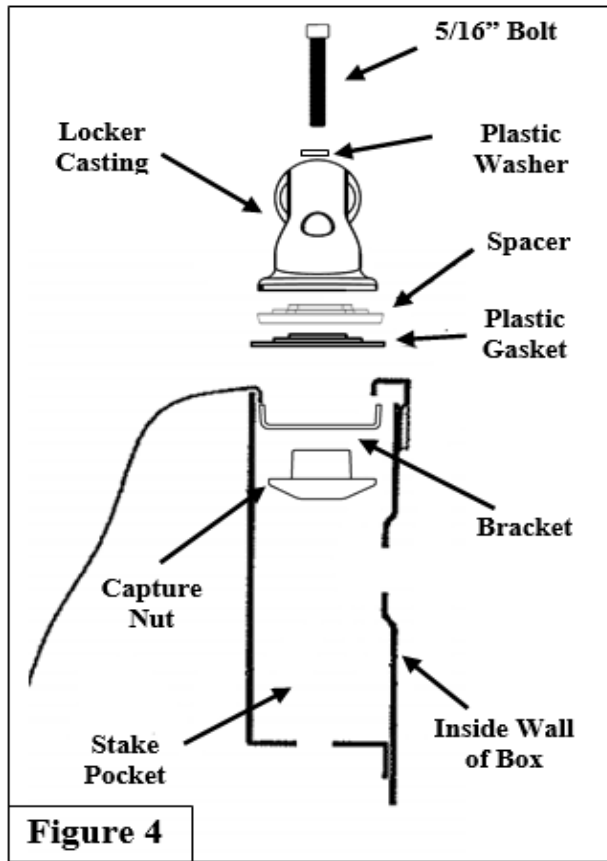
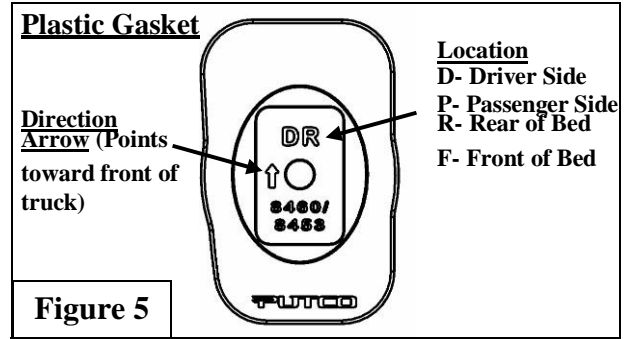

Figure 4
Figure 5
9. Assemble the mounting hardware on all the locker end castings in order as shown (**Figure 4**). **Note: Each plastic gasket goes to a specific stake pocket hole that is marked on the plastic gasket. Refer to (Figure 5). Use Tonneau Spacers (VFL3Z-99000A25-B) if installing with a Ford Tonneau Cover.**
14. Once both locker end castings are in the holes, verify that front bracket is in the orientation shown in (Figure 4)
15. Pull straight up on the front locker end casting so that the bracket and nut maintain contact and correct positioning with the bed as shown in Figure 4.
16. Rotate the plastic gasket until it's correctly oriented. **Arrow on plastic gasket faces toward the front of truck. See (Figure 5)**